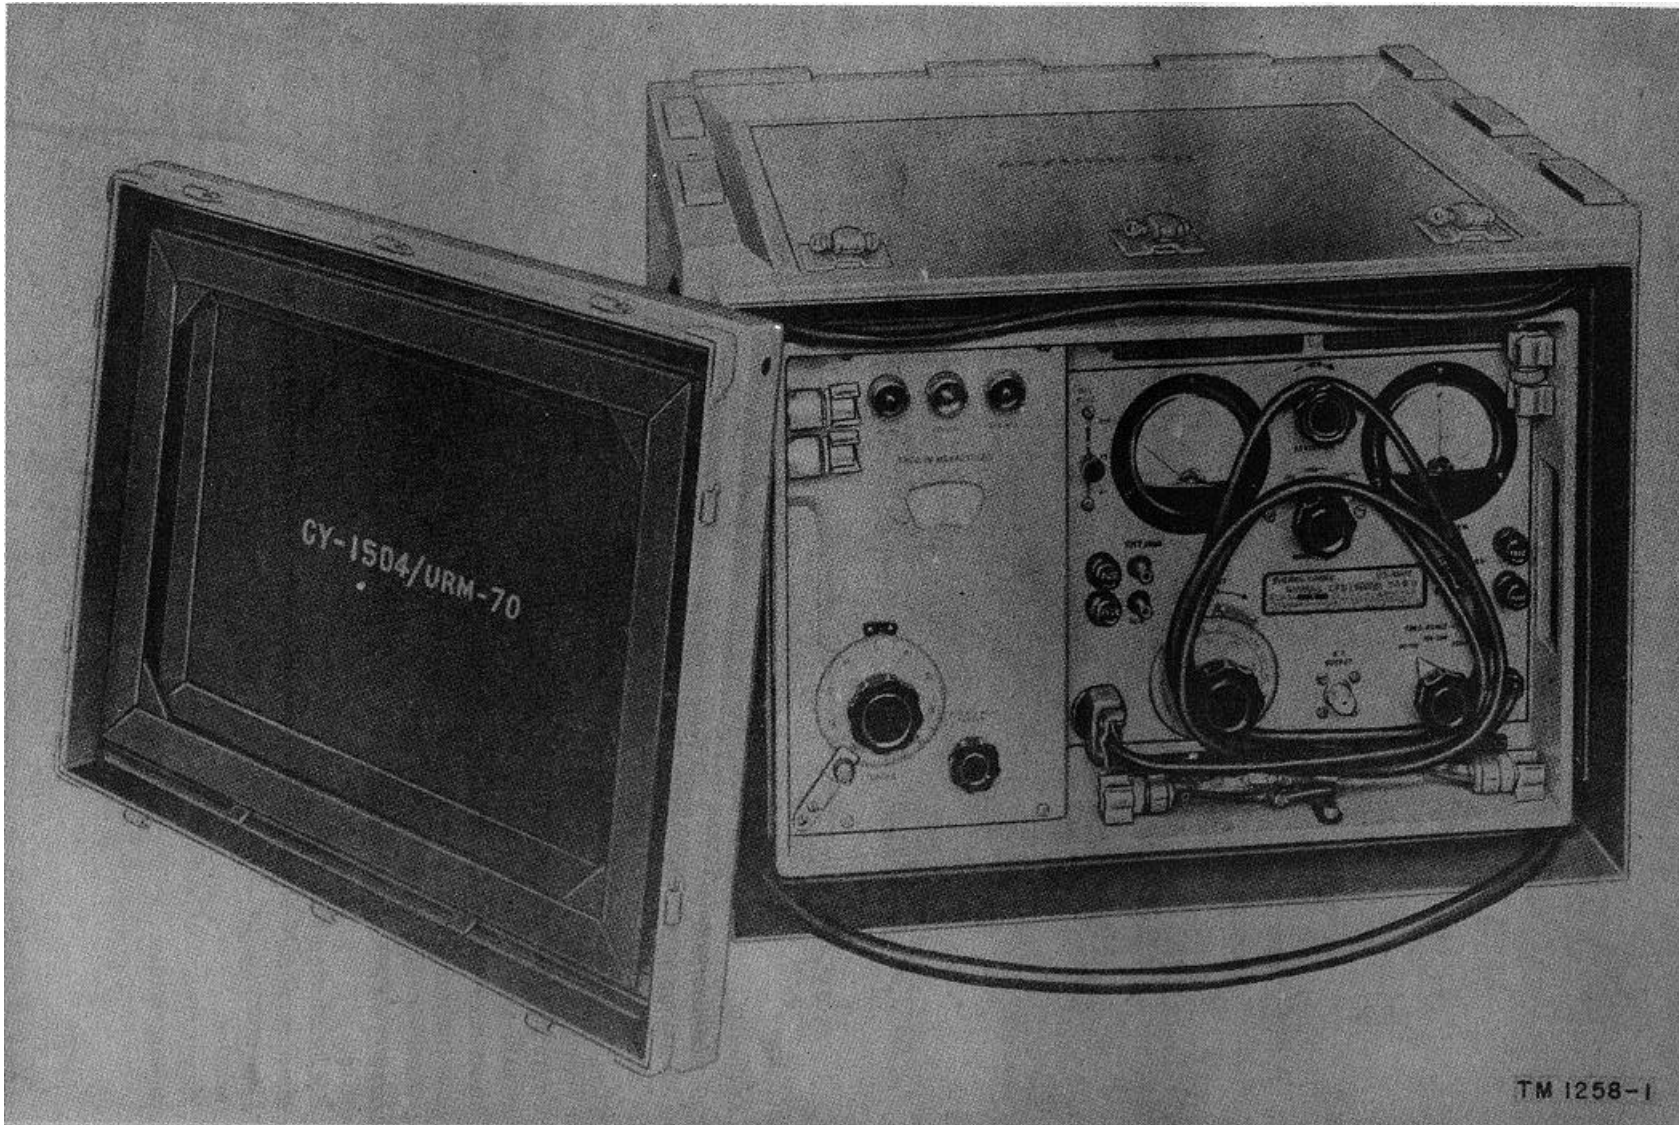
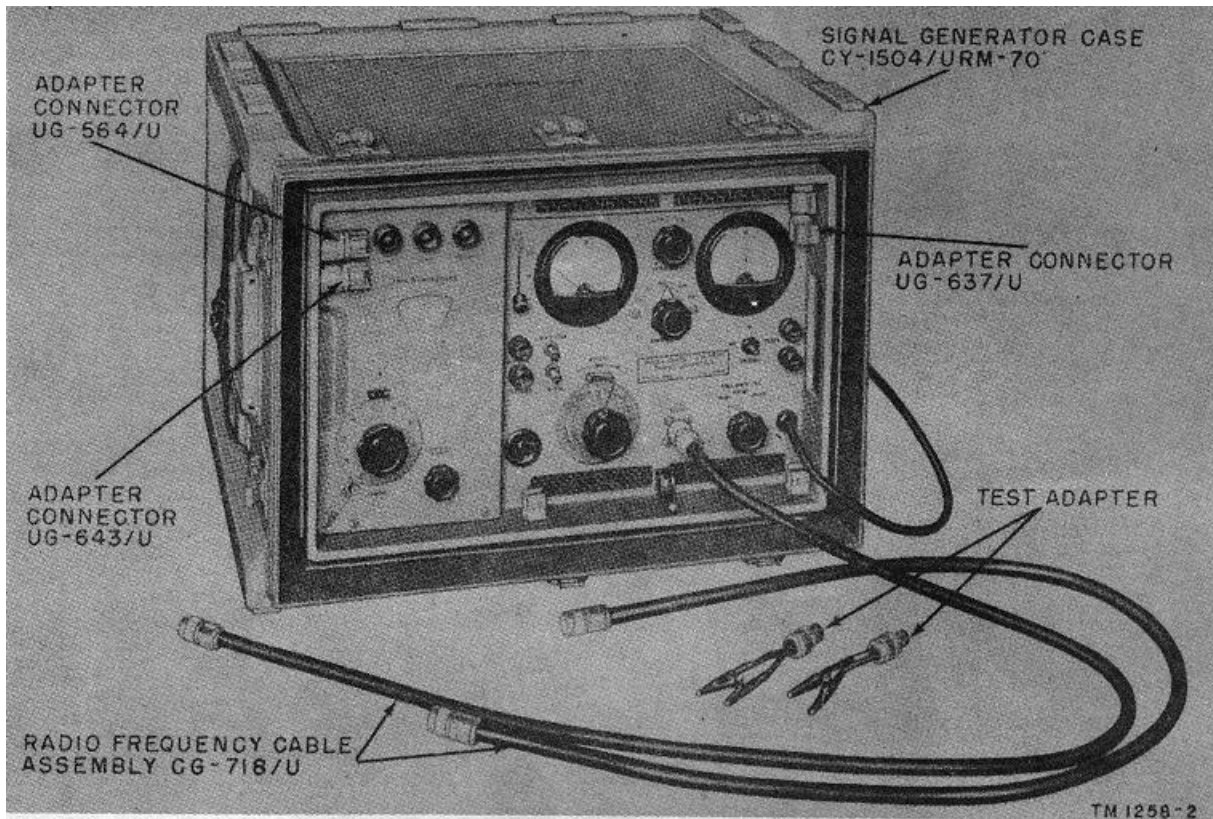

Figure 1. Signal Generator AN/URM-70.
Figure 2. Signal Generator AN/URM-70, with cables and adapters.
a. This manual cover Signal Generator AN/URM-70 (fig. 1). Instructions are given for its installation, operation, repair, and maintenance. In addition to these instructions, there is a chapter devoted to its circuit theory.
a. Signal Generator AN/URM-70 consists of Signal Generator SG-3/U shock-mounted in a transit case (fig. 1). All cables, connections, and controls required are available at the front panel (fig. 2) of the signal generator. The two frontpanel meters are an output level meter and an fm deviation meter. The signal generator contains a 17-tube circuit that provides an fm or continuouswave (cw) test signal within the range of 50 to 400 mc. The front-panel indicator lamps indicate the rf frequency ranges, green, 50-100 mc; amber, 100-200 mc; and blue, 200-400 mc. The FREQ. RANGE-MC selector determines the rf band used.
(fig. 2)